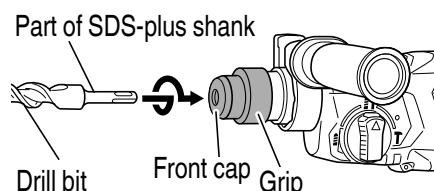
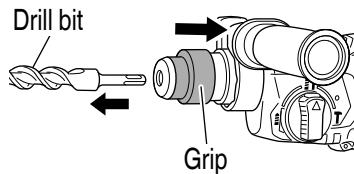

Fig. 7
Fig. 8
(1) Turn the grip of the side handle to loosen it and push it in until it comes in contact with the housing.
(2) Adjust the side handle to the angle that allows the easiest use, then turn the side handle's grip firmly to lock it place.
3. Mounting the drill bit (Fig. 7, Fig. 8 on page 42)
- (1) Clean the shank portion of the drill bit.
- (2) Insert the drill bit in a twisting manner into the tool holder until it latches itself. (**Fig. 7 on page 41**)
- (3) Check the latching by pulling on the drill bit.
- (4) To remove the drill bit, fully pull the grip in the direction of the arrow and pull out the drill bit. (**Fig. 8**)